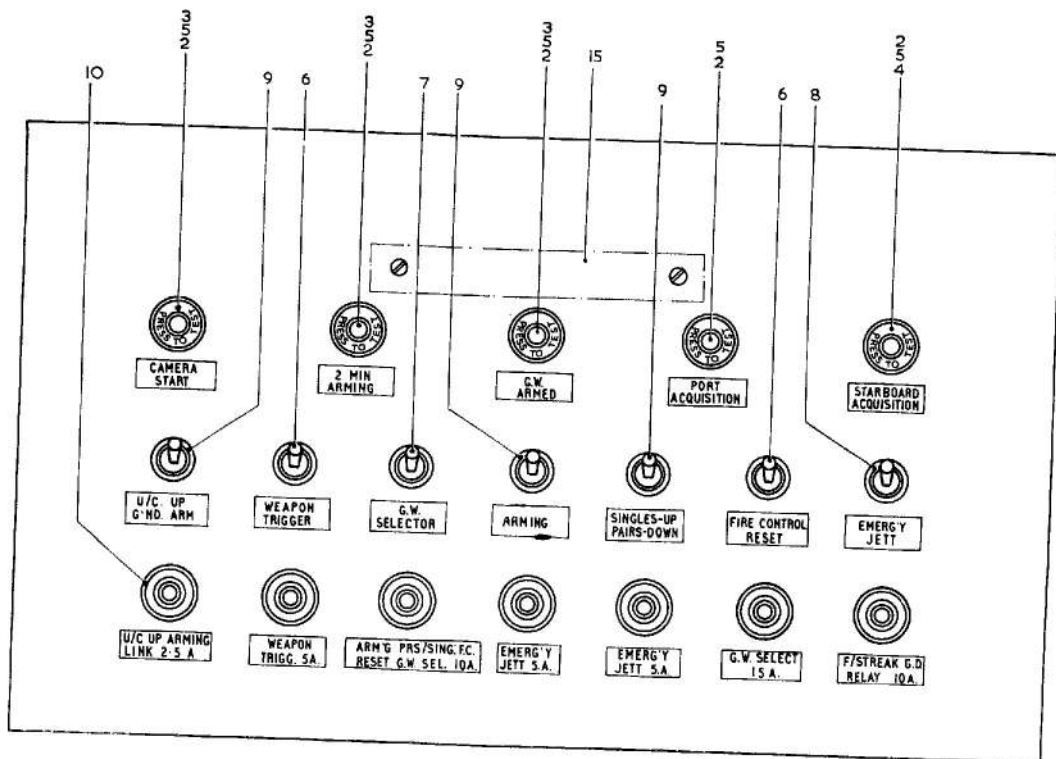
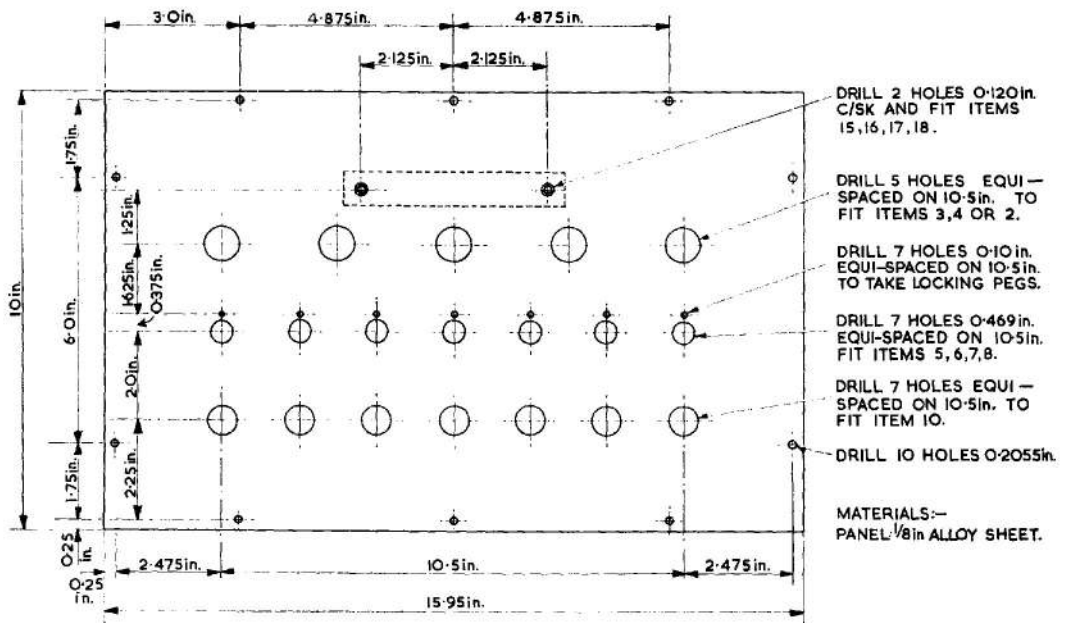

Fig. 2 Front panel—layout
Fig. 3. Front panel—construction details
6. Refer to Fig. 3 for the constructional details of the front panel, Fig. 2 for assembly details and Table 2 for components. Proceed as follows:—
- (1) Mark out light alloy sheet and cut. (*fig. 3*).
- (2) Mark out and drill holes (*fig. 3*).
(3) Modify four indicating lamps using Items 3 and 4, Table 2.
(4) Fit indicating lamps, switches and fuses (*fig. 2*).
- (5) Fit terminal block (Item 15) with 6 BA screws, nuts and lock washers (fig. 3).
- (6) Fit component identification strips with lettering as shown in Fig. 2.